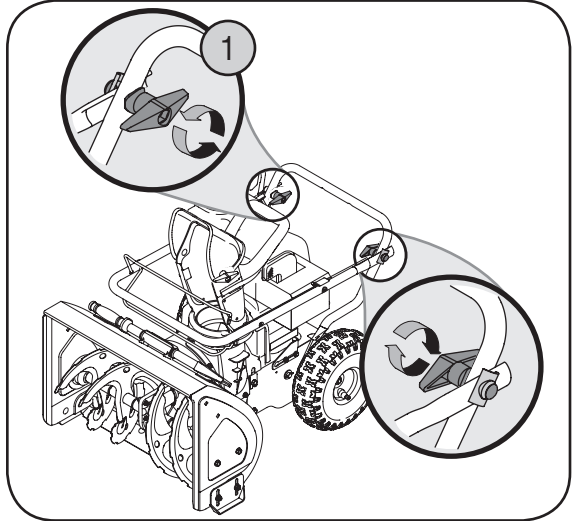

Figure 2
2. Loosen the handle knob, saddle washer and handle tab on each side of the handle. See Figure 2.